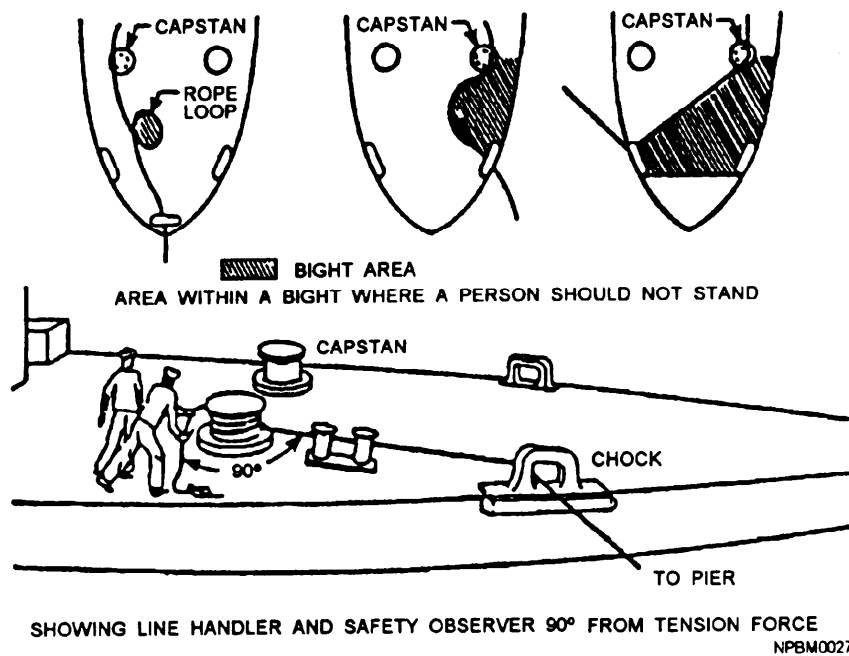

Figure 2-7.—Safe working area.
to stand in the direct-line-of-pull of the line when it is being pulled or when it is under tension. A synthetic line parting under tension will snap back at near the speed of sound, and reaction time to clear the area will not be available. Where possible, position line handlers a minimum of 90° from the direction of the tension force (fig. 2-7).
- Never stand in the bight of a line or in the direct-line-of-pull when the line is being pulled or under tension. See figure 2-7 for examples of danger areas.